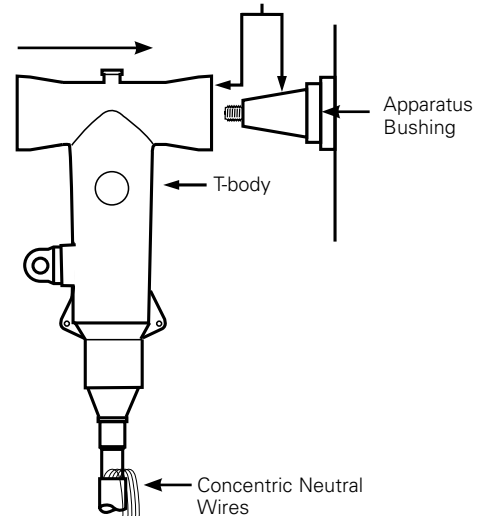

Figure 26. Line illustration of BOL-T connector installation onto apparatus bushing.
- Push T-body onto apparatus bushing ensuring that the stud on the bushing passes through the hole of the compression connector. See Figure 26.